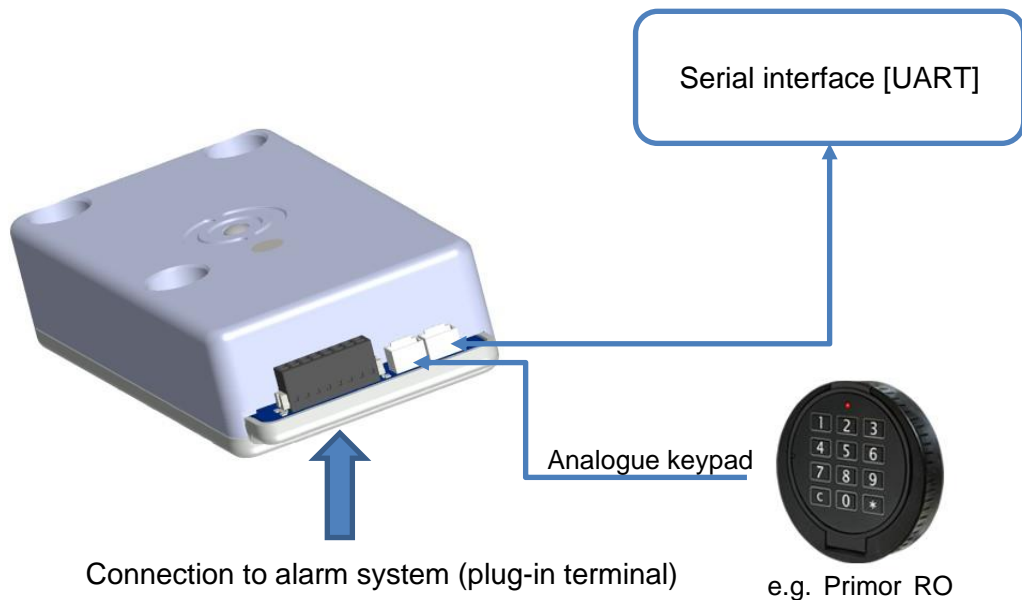

Figure 3 - Cable connection
- Figure 3 - Cable connection 6
Figure 3 shows the assignment of the alarm interface. The signal lines can be connected directly outside the scope of the VdS. The signalling contacts for the silent alarm (labelled “Duress Alarm”) and the bolt position switch (labelled “Secure Off”) are potential-free contacts.